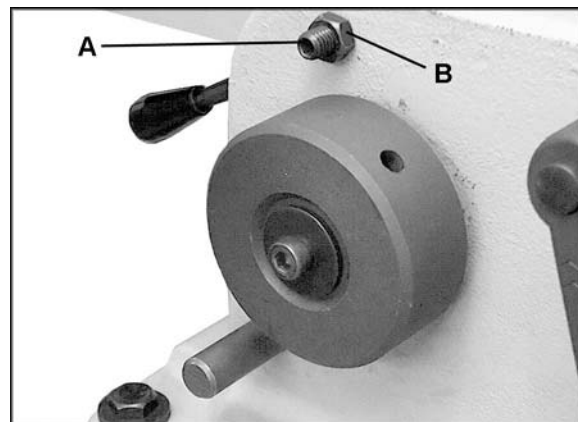

Figure 38
There are four set screws at the front of the jointer – two on the outfeed table and two on the infeed table – that will allow you to prevent “play” in the tables. (Figure 38 shows one of the set screws for the outfeed table.)
After a period of use, the copper tip (see item #27, page 41) which is attached to the end of the set screw (A, Figure 38) may become loose. Resolve this as follows.
1. Loosen the hex nut (B, Figure 38) with a 14mm wrench.
2. Tighten the set screw (A, Figure 38) with a 5mm hex wrench. Do not overtighten the set screw, as it may prevent the table from being raised and lowered easily.
3. Tighten hex nut (B, Figure 38).